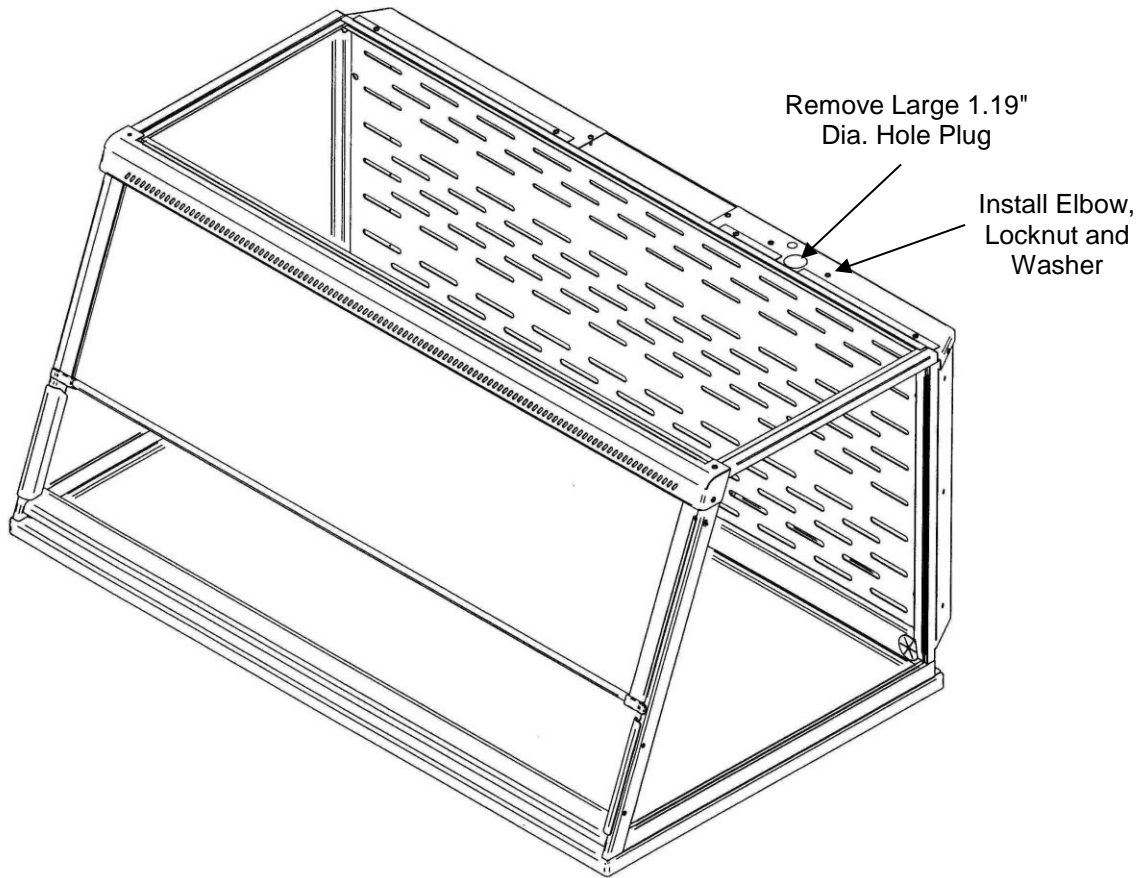
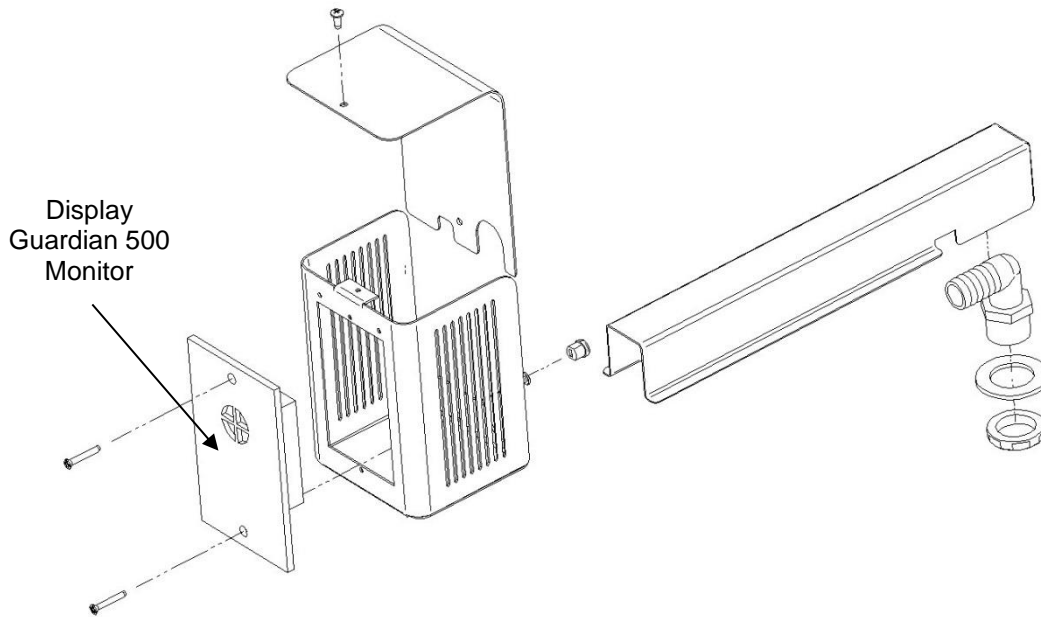

Figure 6-3
Figure 6-4
2. First remove the large 1.19" dia. gray hole plug. See Figure 6-3. See Figure 6-4 only to reference internal assembly of the airflow monitor. Locate the elbow, locknut, and washer and install it in the 1.19" dia. hole per Figure 6-3 and Figure 6-4. The enclosure baffle pivots down to install the elbow, washer and locknut.